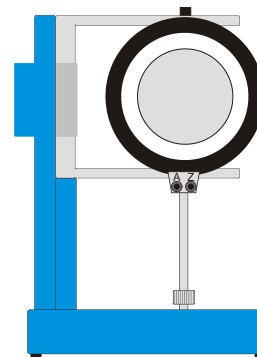

Fig. 2 Setting up the coil
- Place the tube in the stand at  $90^\circ$  to its normal alignment (refer to Fig. 2).